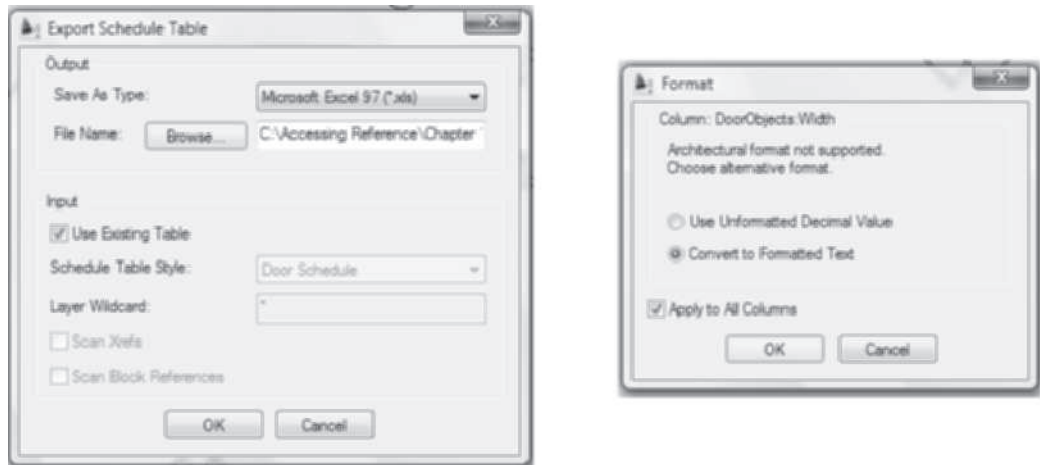

FIGURE 11.88 Door schedule exported to the Excel program
18. Select the schedule and choose **Export** from the Modify panel of the Schedule Table tab to open the **Export Schedule Table** dialog box shown in Figure 11.88. Select the **Browse** button, navigate to your student folder, and edit File name = **Lab 11-3**, Save As Type = **Microsoft Excel 2003 (*.xls)**, and save in your student directory. Click **Save** to complete the selection and dismiss the **Create File** dialog box.
19. Click **OK** to dismiss the **Export Schedule Table** dialog box. **Imperial only:** Verify that the **Convert to Formatted Text** radio button is selected and **Apply to All Columns** is checked in the **Format** dialog box as shown in Figure 11.88. Click **OK** to dismiss the Format dialog box.